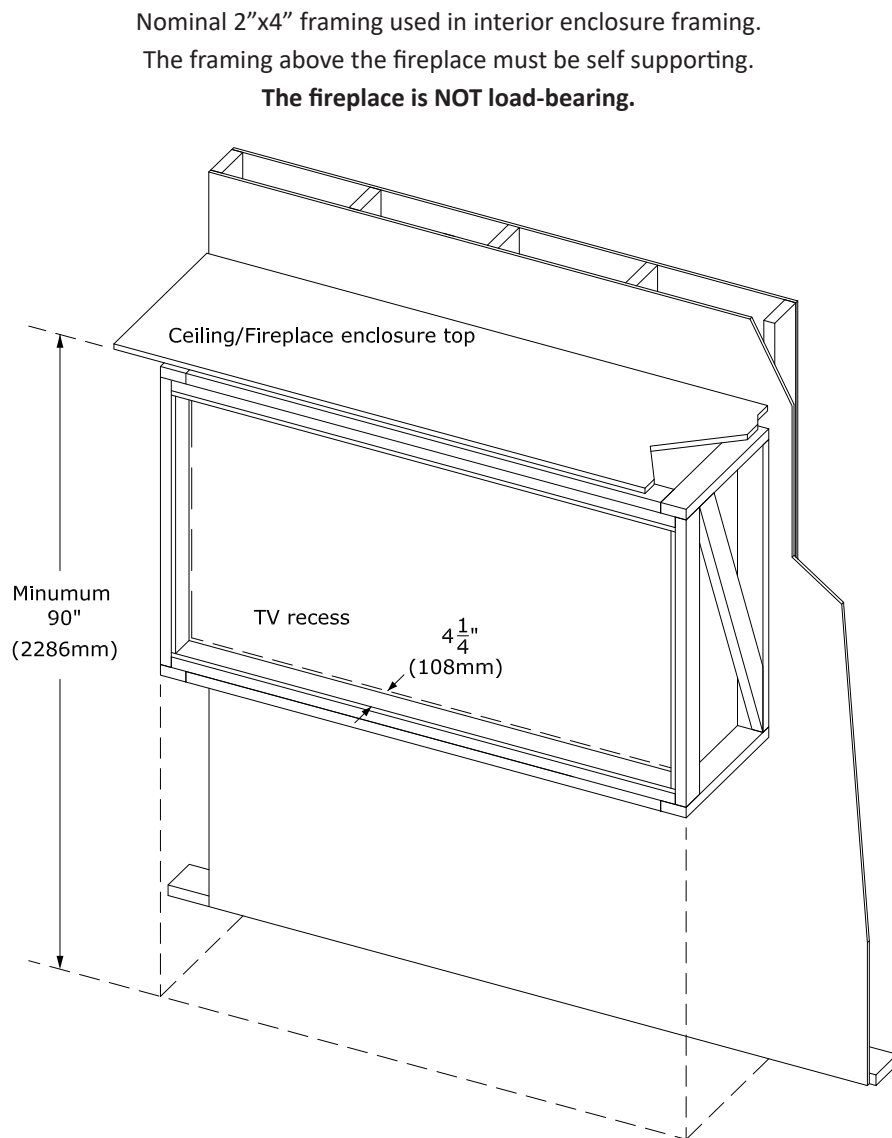

Figure 1.7 - Recess TV Installation
- The allowed TV recess of 4-1/4" (108mm) measures from the front of the nominal 2x4 framing to the backside of the finishing material of the pocket, as shown in Figure 1.7.